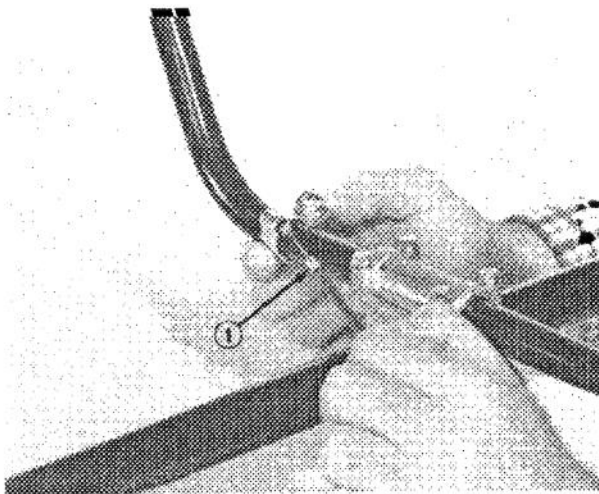

Figure 8
1. Loosen band and insert unthreaded end of throttle cable through band (Fig. 8).